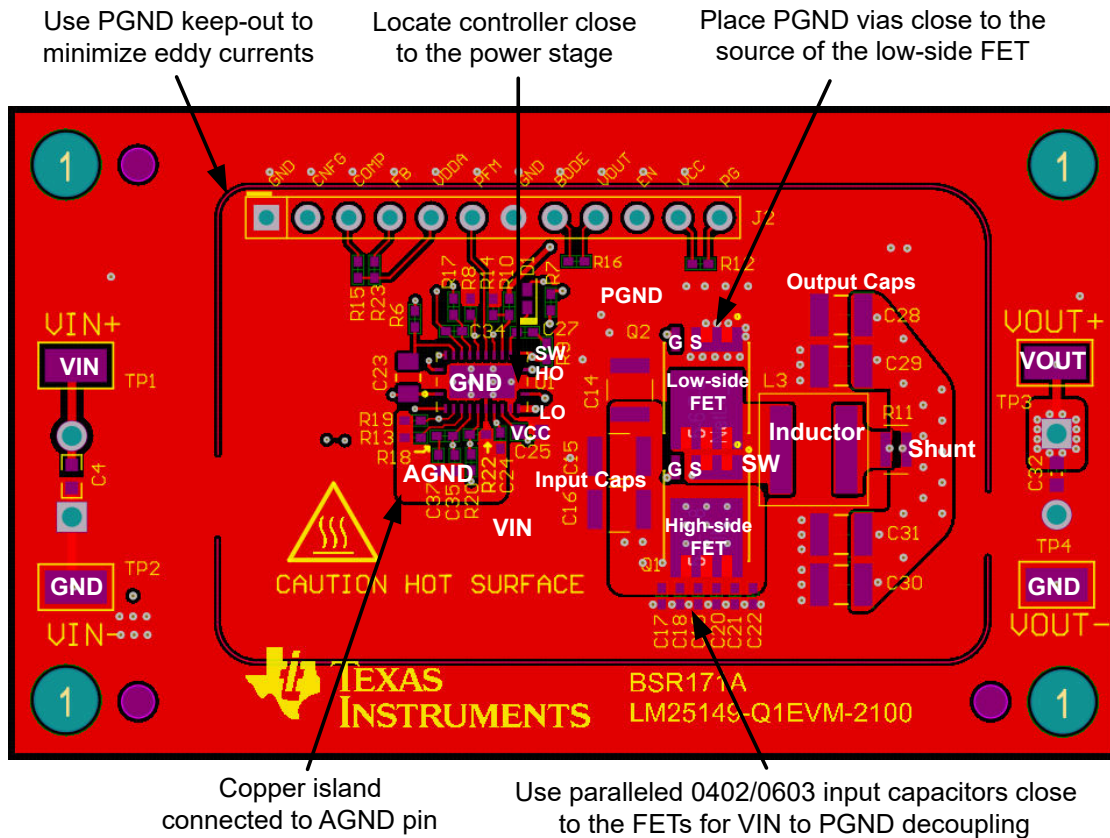

图 9-48. PCB Top Layer - High Density, Single-sided Design
- Connect AVSS to a quiet GND connection, further from IC if possible. Keep decoupling capacitor  $C_{AEFVDDA}$  close to the AEFVDDA pin and AVSS GND connection. See capacitor C23 in Figure 9-48.
图 9-48 shows a single-sided layout of a synchronous buck regulator with discrete power MOSFETs, Q1 and Q2, in SON 5-mm × 6-mm case size. The power stage is surrounded by a GND pad geometry to connect an EMI shield if needed. The design uses layer 2 of the PCB as a power-loop return path directly underneath the top layer to create a low-area switching power loop of approximately 2 mm2. This loop area, and hence parasitic inductance, must be as small as possible to minimize EMI as well as switch-node voltage overshoot and ringing.
- Make the ground connections to the LM5149 controller as shown in 图 9-48. Create a power ground directly connected to all high-power components and an analog ground plane for sensitive analog components. The analog ground plane for AGND and power ground plane for PGND must be connected at a single point directly under the IC - at the die attach pad (DAP).